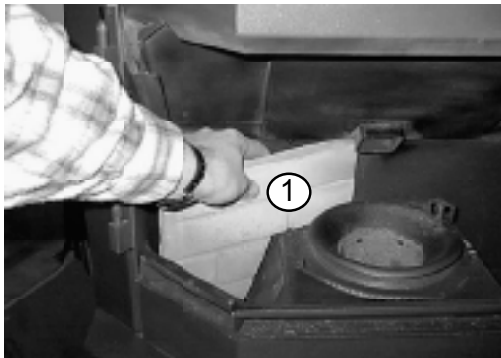

Figure 19.1
2. Slide bottom of left rear brick in first; rotate top edge toward rear of appliance and then rotate outer edge toward rear of appliance, until brick slides into place. **Figure 19.1.**